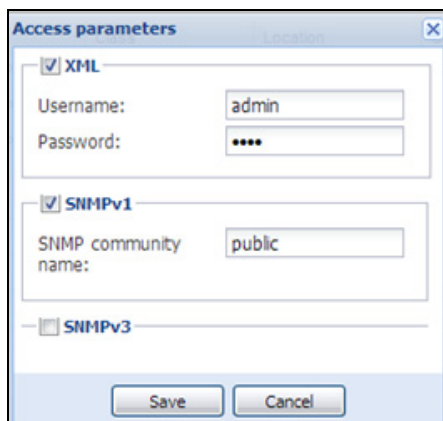
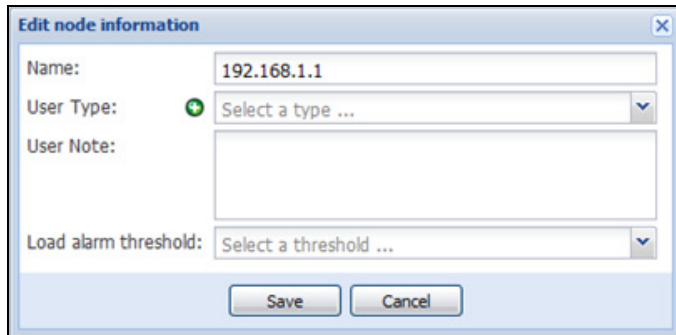

Figure 12. Node Access Parameters for NMC
Figure 14. Node Information
4. The Edit Node Information dialog or the Access parameters dialog displays (see Figure 12 through Figure 14):